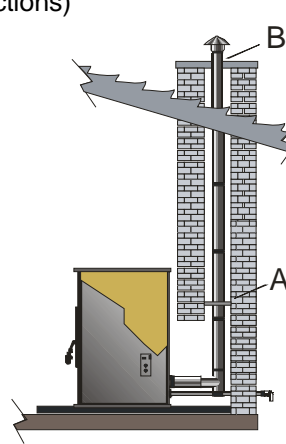

Figure 7
1. Must be an approved 3" or 4" Diameter Type "PL" vent, vented to the outside (fig. 7) or connect the vent to a factory built type "A" chimney using an adaptor.
PELLET VENT TERMINATION: (Figures 7 & 8)